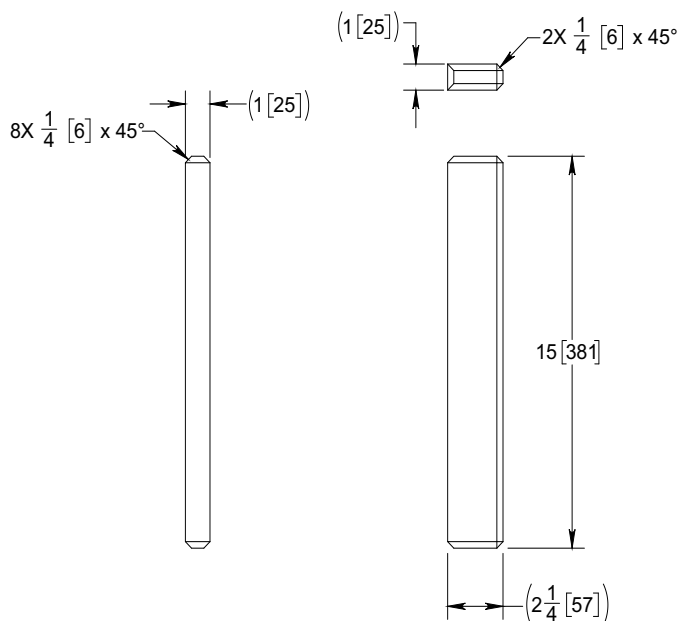

Figure 3: Plate P/N: DT27200-1
1. Using ASTM A36 material, fabricate two (2) plates (item 1 on Table 1 on page 2) as indicated in Figure 3.